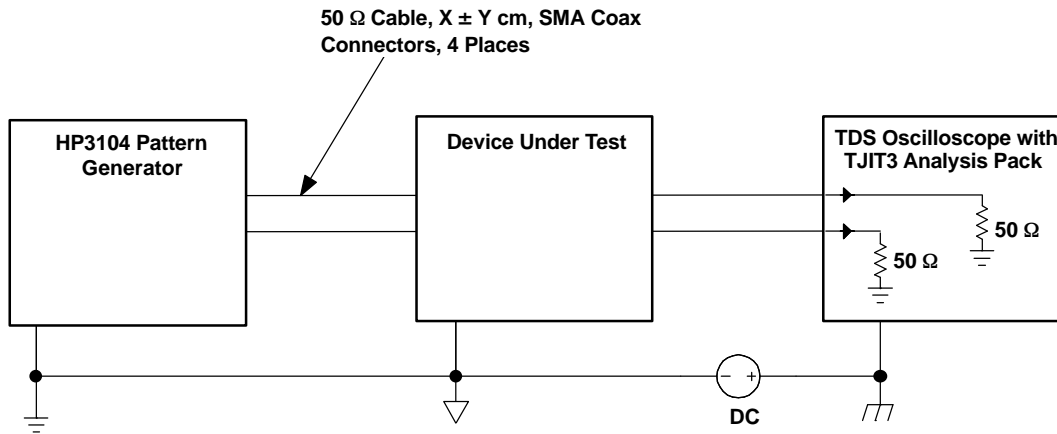

Figure 5. Jitter Measurement Setup
| t jit(per) | RMS period jitter (3)                               | 2-GHz 50%-duty-cycle square-wave input,See Figure 5 |              | 2                  | 4   | ps   |